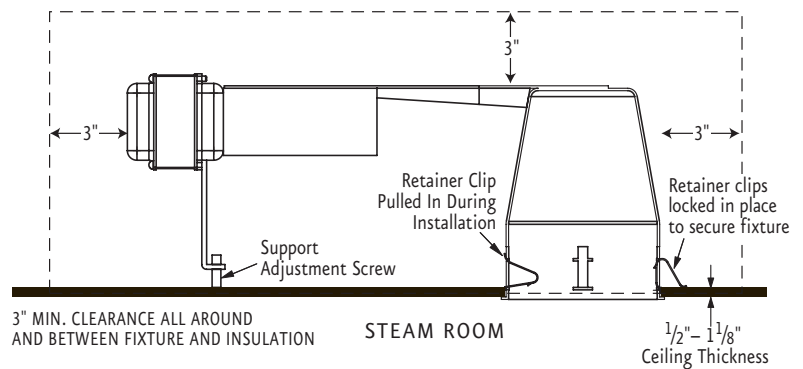
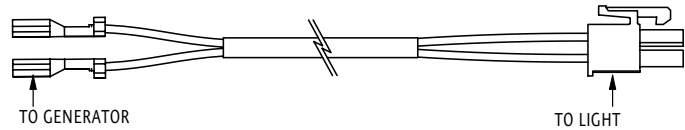

Figure 1
Figure 2
**IMPORTANT NOTE:** The quick connect tabs should be on the generator side, the Molex connector should be routed to the light, see figure 2.
10. With the clips folded into the fixture as shown in figure 1 insert the wired housing into the ceiling junction box first as shown in figure 2.